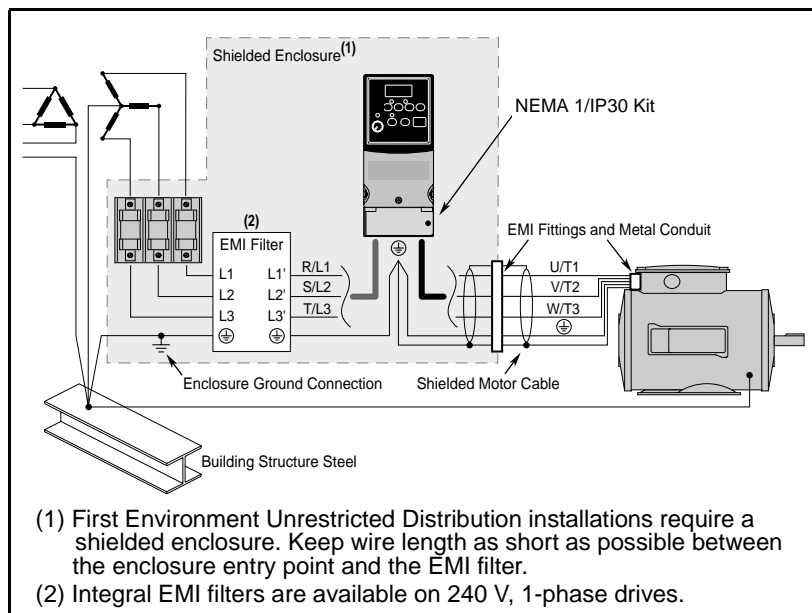

Figure D.1 – Connections and Grounding
- Grounding as described in figure D.1. Refer to chapter 4 for additional grounding recommendations.